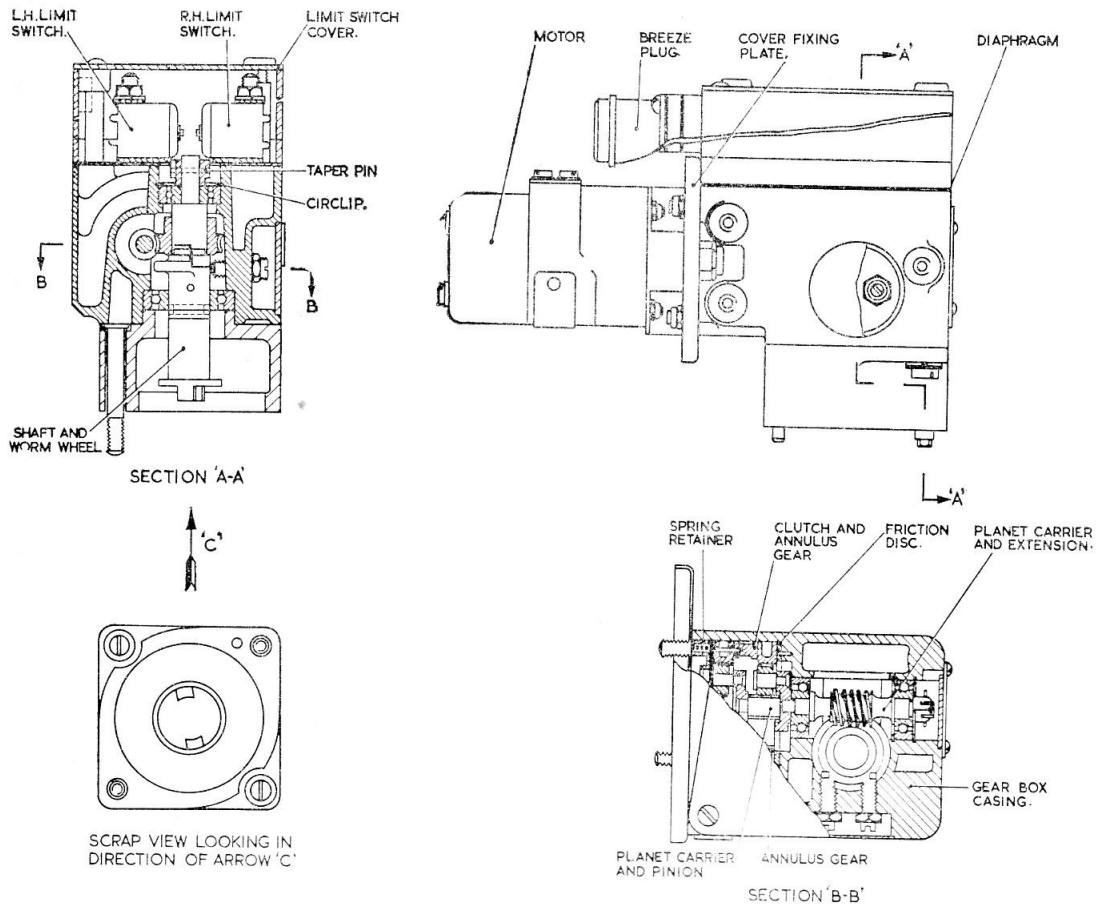

Fig. 2. Sectional view of actuator
3. The actuator consists of a 2-pole, split series field, 28 volt d.c. motor, driving through the medium of a double plate friction clutch, a 2-stage epicyclic reduction gear train, and a right angle 4-start worm and wheel. A sectional view of the actuator is shown (*fig. 2*).